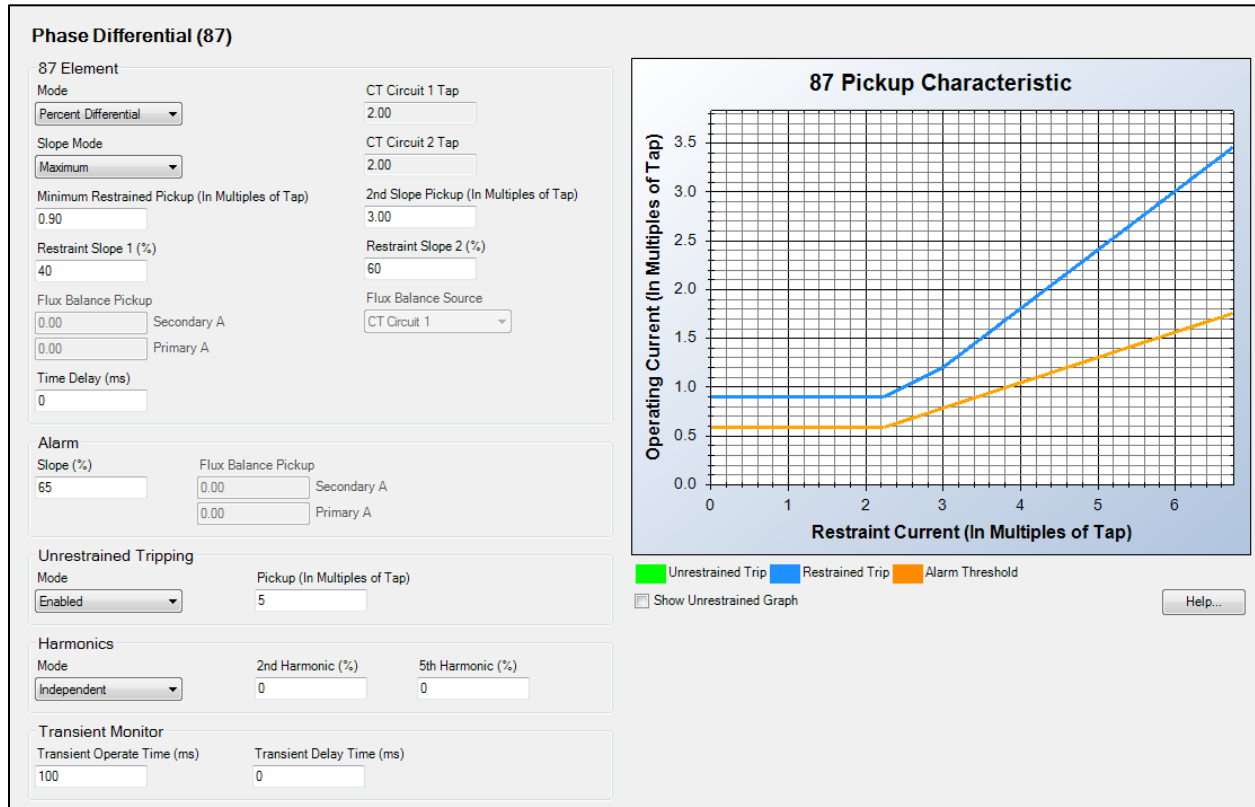
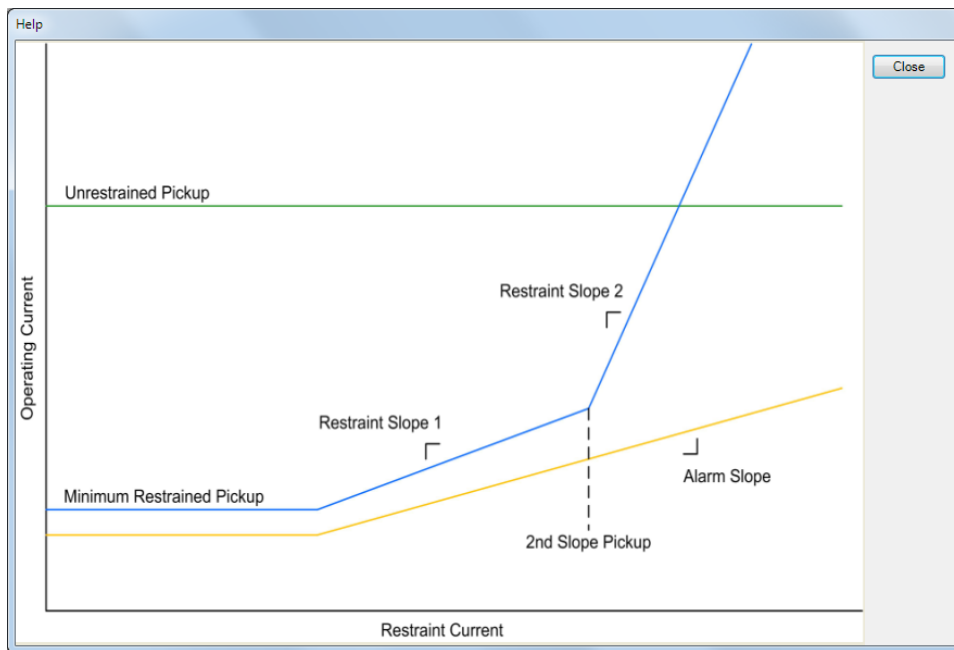

Figure 20-4. Phase Current Differential Settings Screen
Figure 20-5. Phase Current Differential Operation Chart
Phase current differential element operational settings are configured on the Phase Current Differential (87) settings screen (Figure 20-4) in BESTCOMSP*lus*. A legend for the chart (Figure 20-5) is shown by clicking the Help button on this screen.